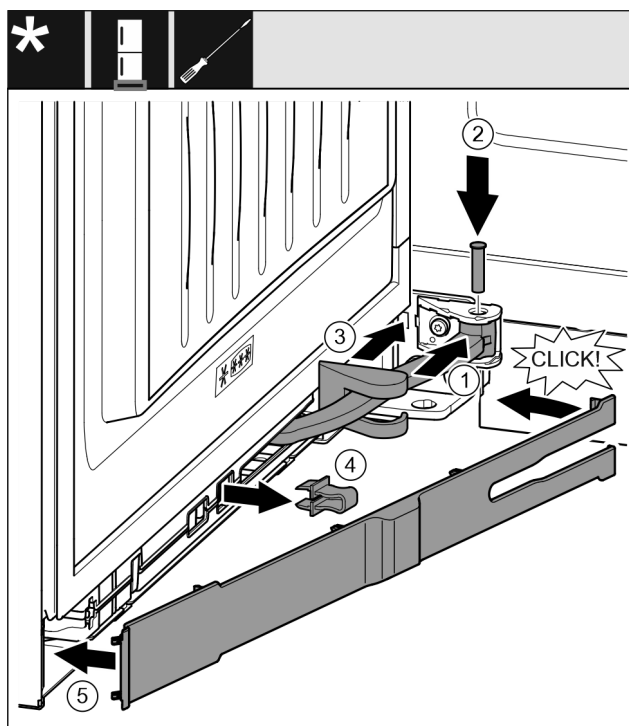

Fig. 43
- ▶ Turn the joint *Fig. 43 (1)* in the attachment.
- ▶ Use a screwdriver to insert the bolt *Fig. 43 (2)* into the attachment and the joint. Ensure that the latching cam is in the groove properly.
- ▶ Push the swap bearing block cover *Fig. 43 (3)* along the joint and use the attachment to fit it.
- ▶ Remove the safeguard *Fig. 43 (4)*.
- ▶ Place the trim *Fig. 43 (5)* on the handle side and swing in.